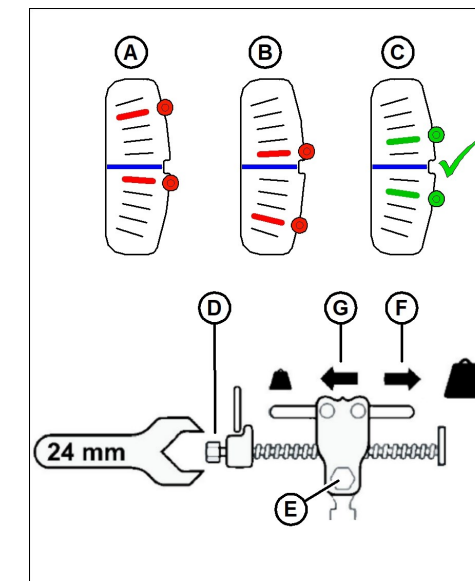

Figure 10: Wing Balance Adjustment
- On the flex checker plate, pinch indicators (A) and (B) together with your fingers.
- Use multi-tool (C) to rotate the flex checker plate up until the pin reaches the end of the slot. Lower indicator (B) will move down to give the first reading.
- Use multi-tool (C) to rotate the flex checker plate down until the pin reaches the end of the slot. Upper indicator (A) will move up to give the second reading.
- Refer to Figure 10 and interpret the indicator positions as follows: